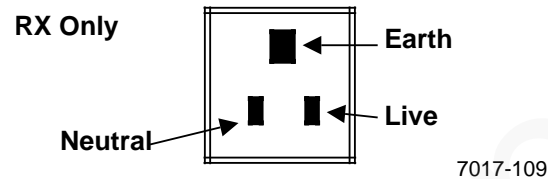

Figure 3. RX UK Wall Outlet
**RX UK Only:** Measure the AC voltage between live and neutral and between live and earth. Meter = 196 to 264 VAC (Figure 3).
**RX, UK Only:** Measure the AC voltage between Neutral and Earth. Meter = less than 3 VAC (Figure 3).